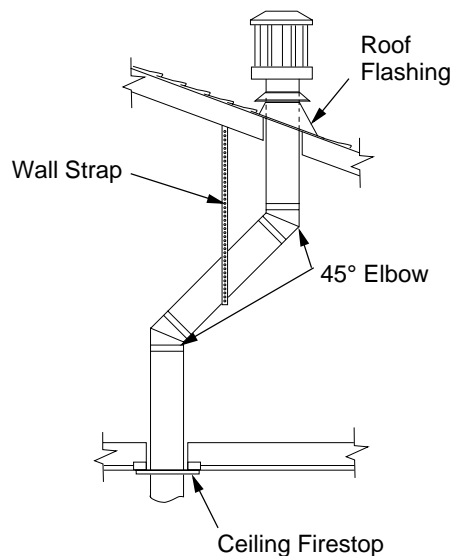
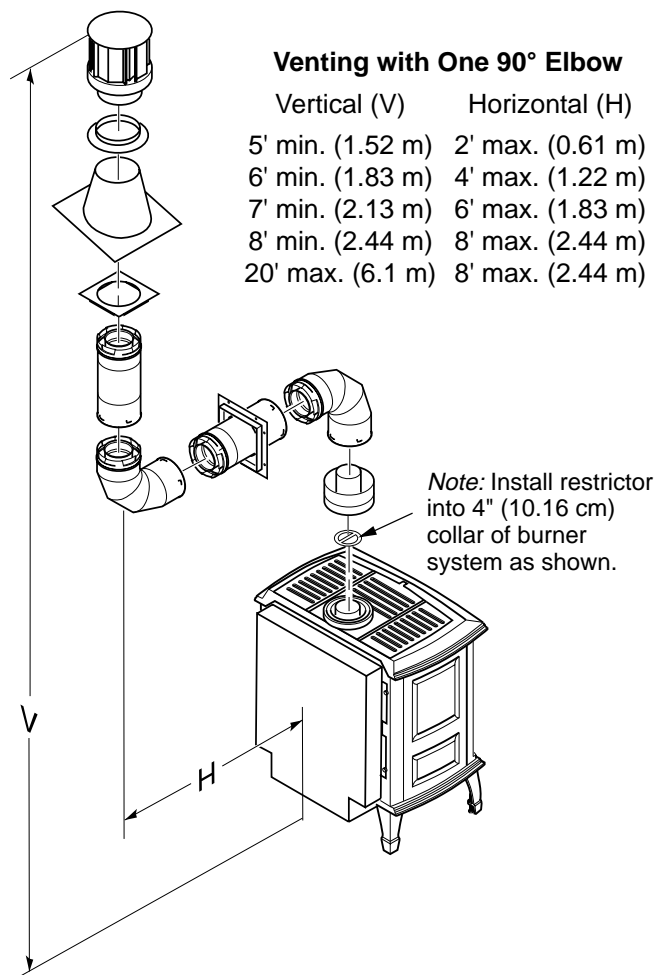

Figure 34 - Offset with Wall Strap and 45° Elbows
Figure 38 - Vertical Venting Configuration Using One 90° Elbow
1. Determine the route your vertical venting will take. If ceiling joists, roof rafters, or other framing will obstruct the venting system, consider an offset (see Figure 34) to avoid cutting load bearing members. *Note:* Pay special attention to these installation instructions for required clearances (air space) to combustibles when passing through ceilings, walls, roofs, enclosures, attic rafters, etc. Do not pack air spaces with insulation. Also note maximum vertical rise of the venting system and any maximum horizontal offset limitations. Offsets must fall within the parameters shown in Figures 38 through 40, pages 17 and 18.
Note: If an offset is needed to avoid obstructions, you must support the vent pipe every 3 feet (0.91 m). Use wall straps for this purpose (see Figure 34). Whenever possible, use 45° elbows instead of 90° elbows. The 45° elbow offers less restriction to the flow of the flue gases and intake air.
5. Place the flashing over the pipe section(s) extending through the roof. Secure the base of the flashing to the roof and framing with roofing nails. Be sure roofing material overlaps the top edge of the flashing as shown in Figure 34. There must be a 1" (2.54 cm) clearance from the vent pipe to combustible materials.
Figure 38 through 41 show four different configurations for vertical termination. All connections must be sealed with high temperature silicone sealant as specified in the second warning statement on page 12.